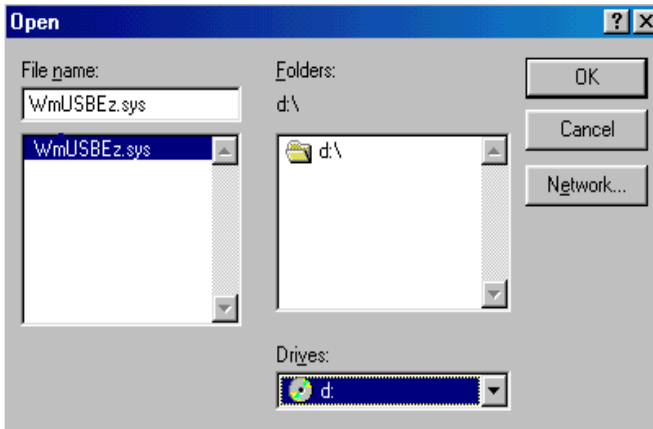

Figure 1-7. Windows 98 – Opening .SYS File
8. Click **Browse**. The **Open** dialog box, shown in Figure 1-7, appears on the screen.